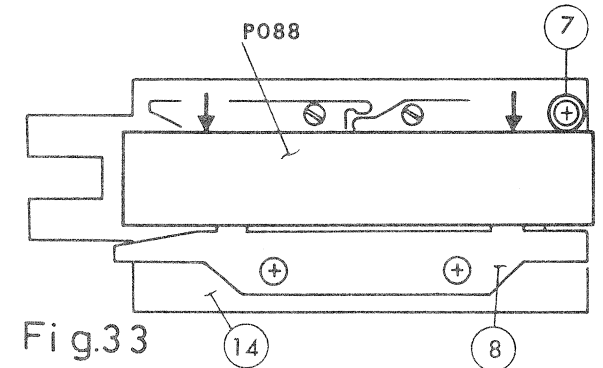

Fig.33
5. Apply fixed guide installing gauge (P088) to ⑭, as shown in Fig. 33, and lightly press in the direction of arrow mark to fit ⑦ closely to the gauge.